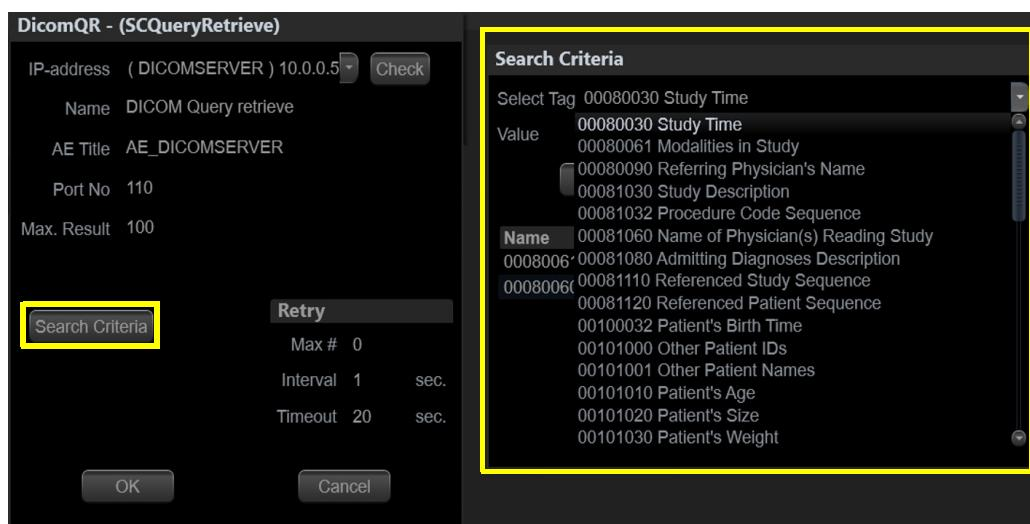

Figure 3-33 Select Search Criterias
- 1) Select Search Criterias (ref: Figure 3-33.)